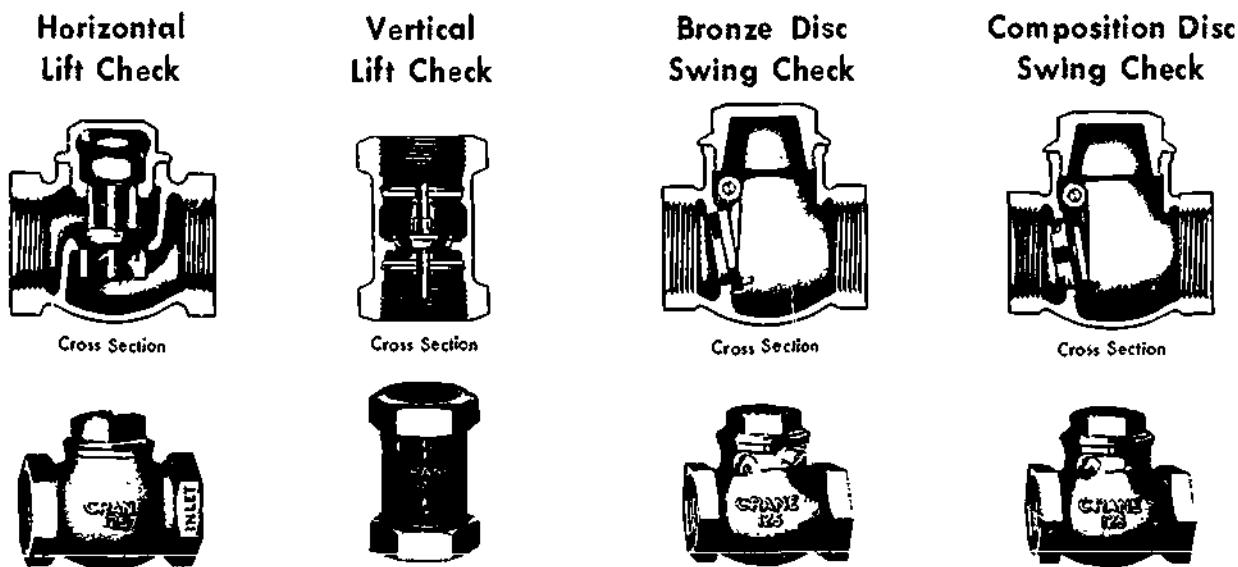

Figure 7-11. Check Valves
2. They are of two basic designs, the swing check valve and the lift check valve. (See Figure 7-11.)
6. Three types of check valves are illustrated in Figure 7-11.